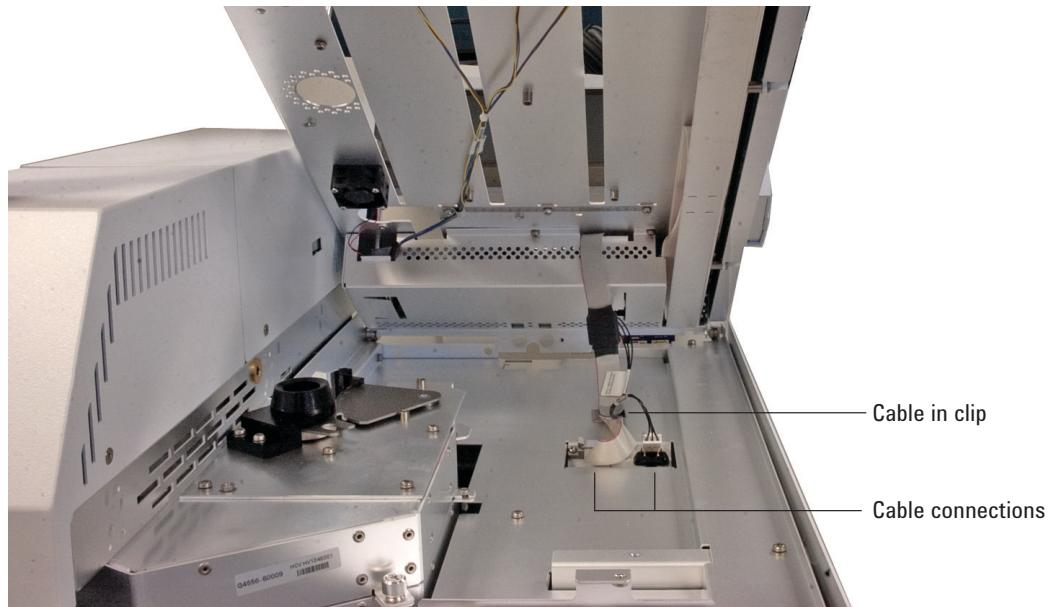

Figure 28 Tray cable connections
- 3 Connect the tray cables to the cable connections (Figure 28).